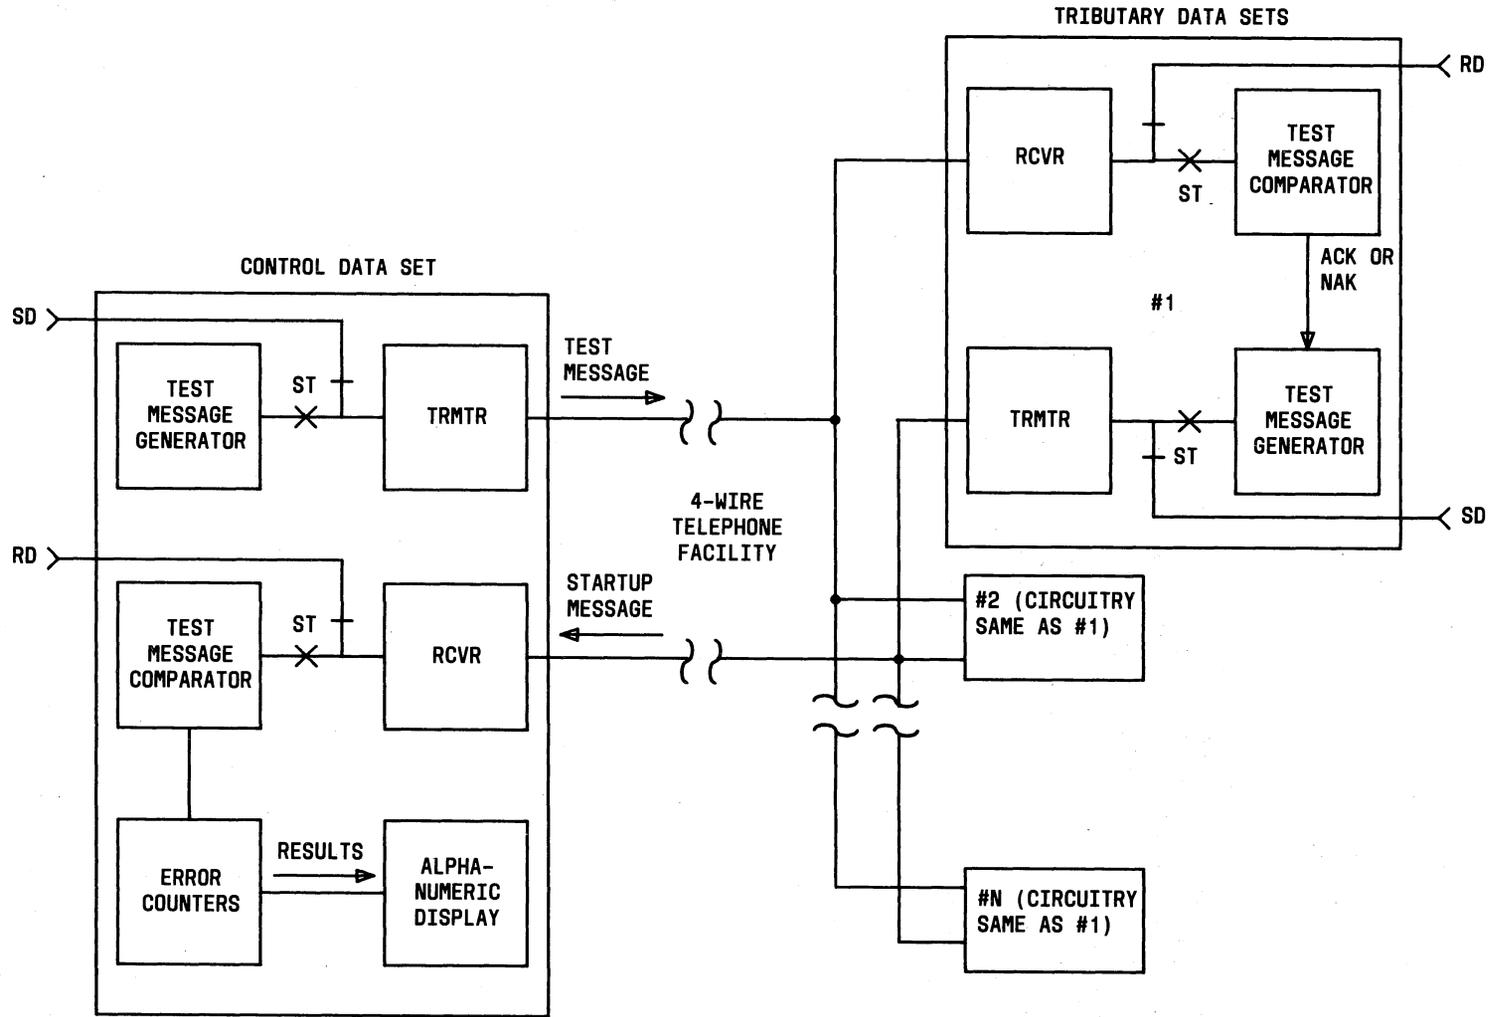

Fig. 18—Automatic Network Test
**3.58** This test (Fig. 18) is available only on control data sets. It is designed to provide the operator with a way to quickly ascertain the status of the data sets and facilities of the network. The control data set generates a message and transmits it on the primary channel to each tributary data